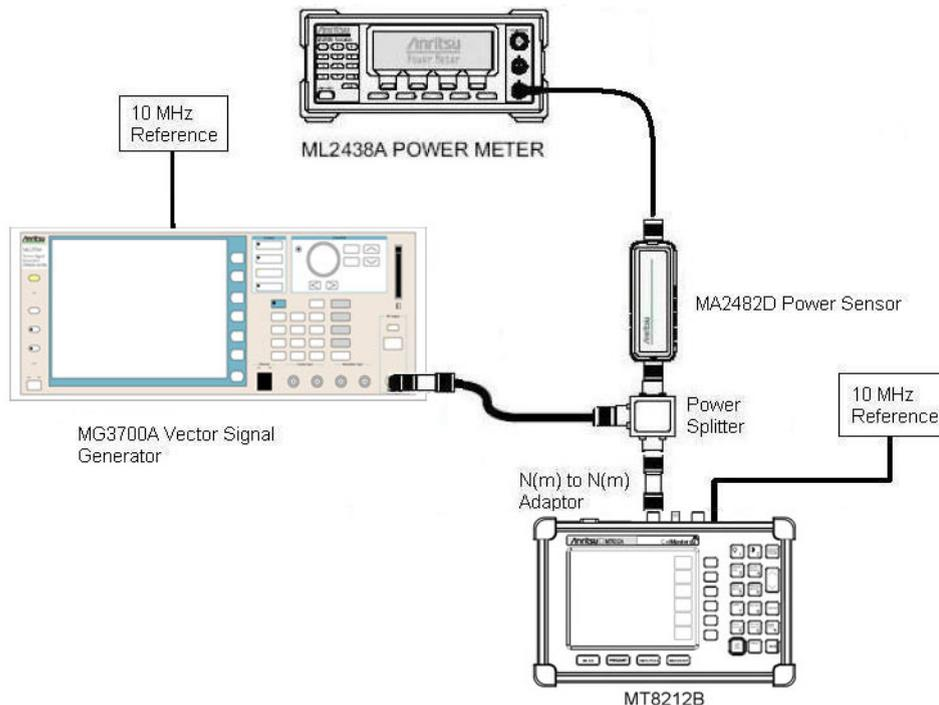

Figure 2-10. iDEN Signal Analyzer Setup
1. Connect the equipment as shown in Figure 2-10. Ensure that the external 10 MHz reference is connected to both the 10 MHz Ref input of the MG3700A and the Ext Freq Ref input of the MT8212B.